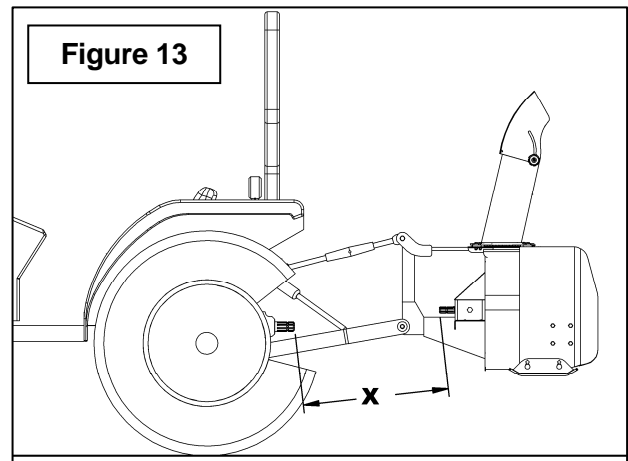

Figure 13
1. To determine the "L" length for your tractor model first find the "X" (figure 13) factor by measuring the horizontal distance between the end of the tractor's drive shaft and the end of the snowblower's driven shaft when the snowblower is in transport position as shown on **Figure 11**.
2. Choose in the table below the "Y" factor according to the tractor category and deduct that number from "X" (figure 13) to determine "L" (figure 14) which is the center-to-center length between the universal joints.